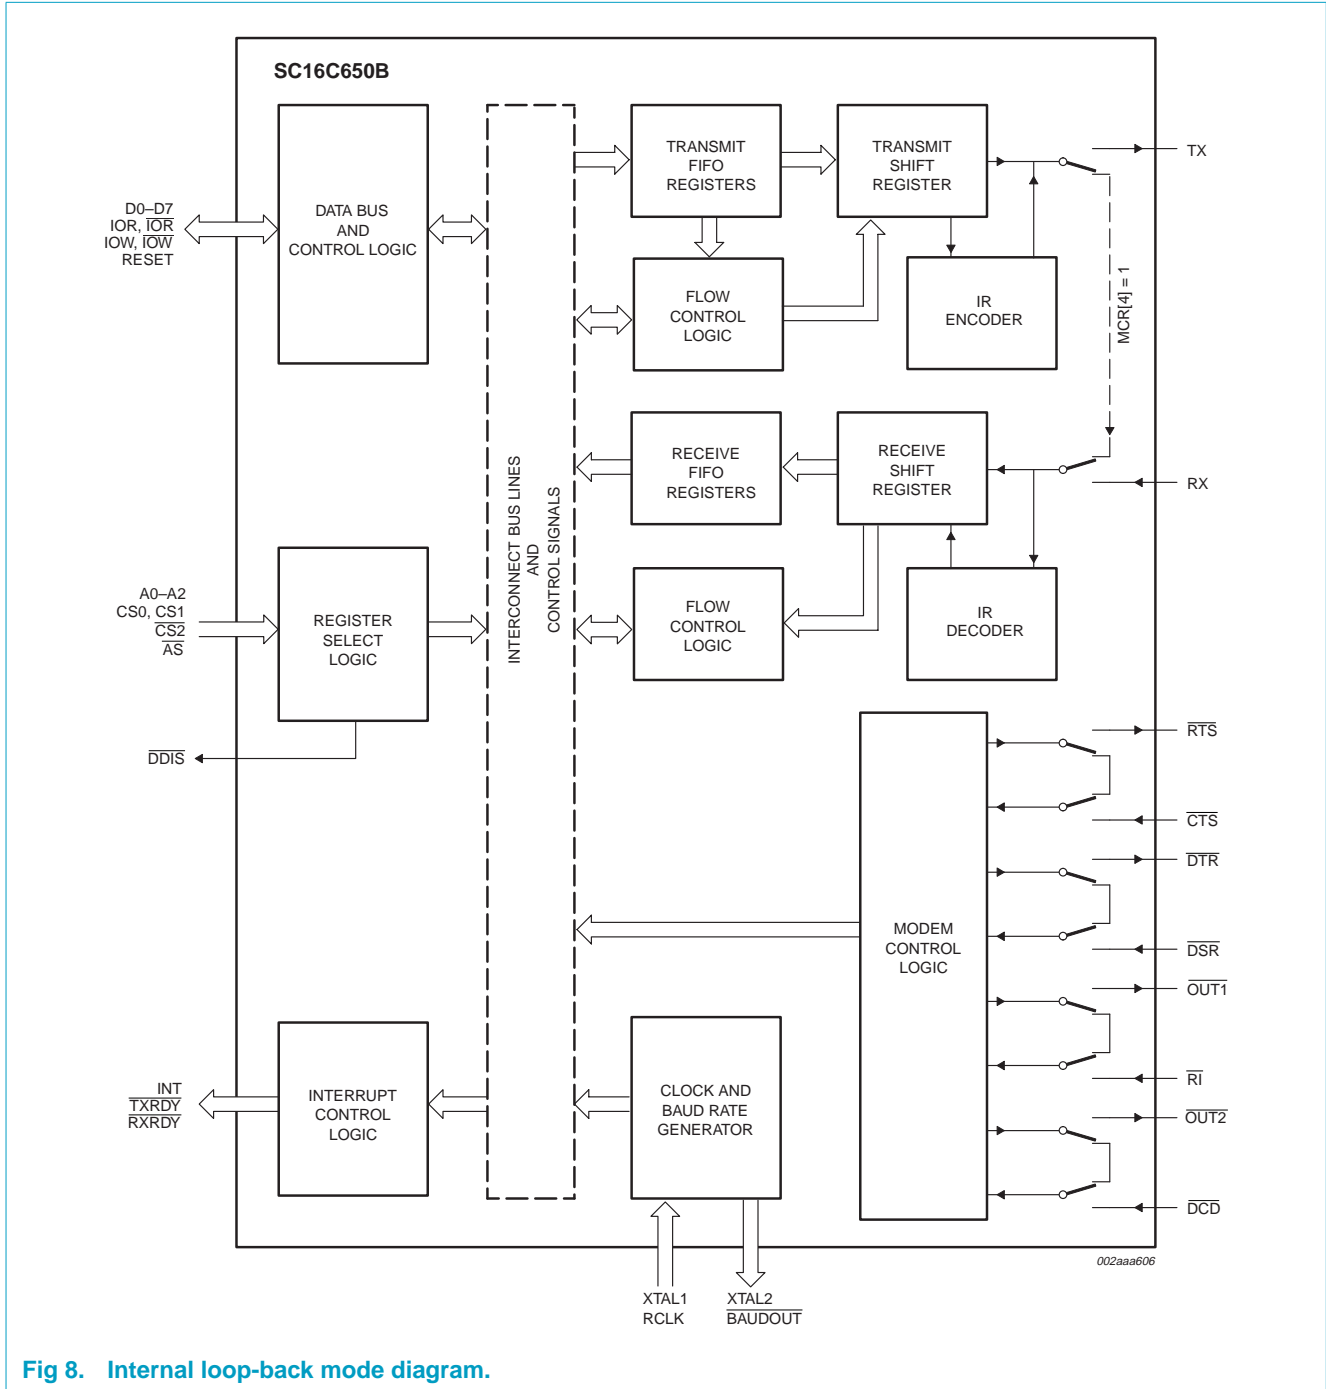

Fig 8. Internal loop-back mode diagram.
The internal loop-back capability allows on-board diagnostics. In the loop-back mode, the normal modem interface pins are disconnected and reconfigured for loop-back internally. MCR[0:3] register bits are used for controlling loop-back diagnostic testing. In the loop-back mode, OUT1 and OUT2 in the MCR register (bits 2:3) control the modem $\overline{\text{RI}}$ and $\overline{\text{DCD}}$ inputs, respectively. MCR signals $\overline{\text{DTR}}$ and $\overline{\text{RTS}}$ (bits 0:1) are used to control the modem $\overline{\text{DSR}}$ and $\overline{\text{CTS}}$ inputs, respectively. The transmitter output (TX) and the receiver input (RX) are disconnected from their associated interface pins, and instead are connected together internally (see Figure 8). The $\overline{\text{CTS}}$, $\overline{\text{DSR}}$, $\overline{\text{DCD}}$, and $\overline{\text{RI}}$ are disconnected from their normal modem control input pins, and instead are connected internally to $\overline{\text{DTR}}$, $\overline{\text{RTS}}$, $\overline{\text{OUT1}}$ and $\overline{\text{OUT2}}$. Loop-back test data is entered into the transmit holding register via the user data bus interface, D0-D7. The transmit UART serializes the data and passes the serial data to the receive UART via the internal loop-back connection. The receive UART converts the serial data back into parallel data that is then made available at the user data interface D0-D7. The user optionally compares the received data to the initial transmitted data for verifying error-free operation of the UART TX/RX circuits.